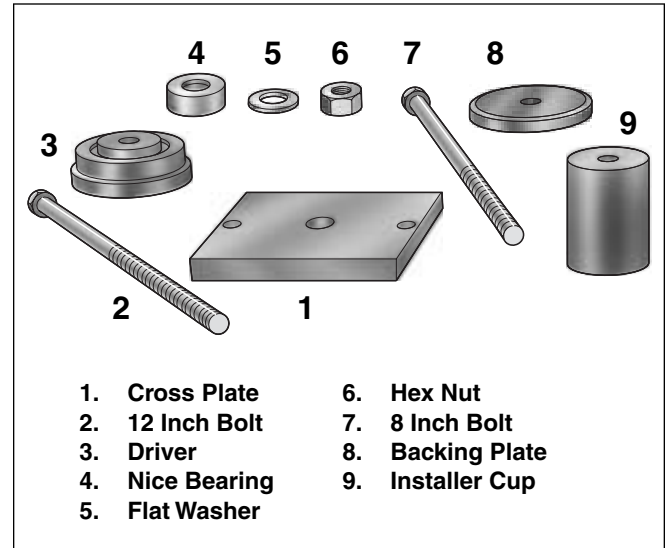

Figure 7-28. Main Drive Gear/Bearing Remover/Installer (Part No. HD-35316B)
1. Obtain the MAIN DRIVE GEAR/BEARING REMOVER/INSTALLER (HD-35316B). See Figure 7-28.